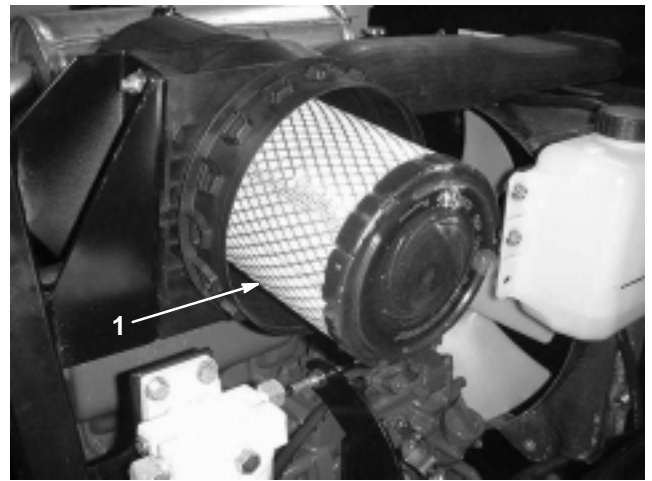
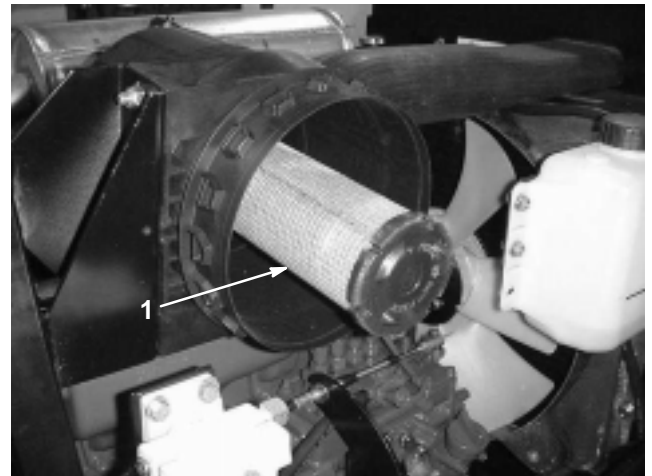

Figure 26
Figure 27
2. Gently slide the primary filter (Fig. 26) out of the air cleaner body to reduce the amount of dust dislodged. Avoid knocking the filter against the air cleaner body. **Do not** remove the safety filter (Fig. 27).
Important Never attempt to clean the safety filter (Fig. 27). Replace the safety filter with a new one after every three primary filter services.